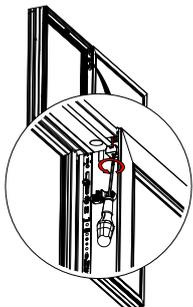

Figure 3: Remove track lock in centre
3. Remove the track lock at the mullion in the top frame. Open the door and remove the track lock on the master side (figures 3 + 4).